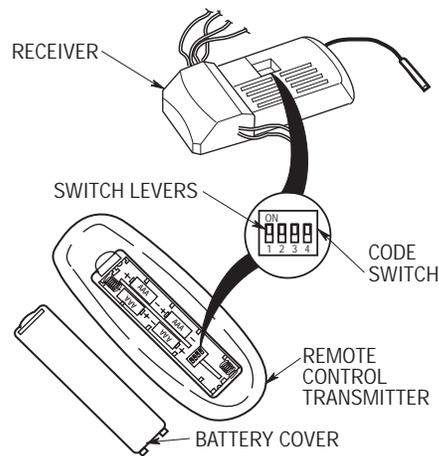

Figure 1
1. Remove the battery cover and install four AAA alkaline batteries (not supplied), oriented as shown in the diagram in the battery compartment. (Figure 1).
1. On the remote control transmitter, locate the code switch just above the battery compartment (Figure 1).
- 3. In the receiver (Figure 1), slide the four switch levers to the same positions as set in the transmitter. Make sure the levers on both switches are in the same positions, otherwise the fan will not operate.